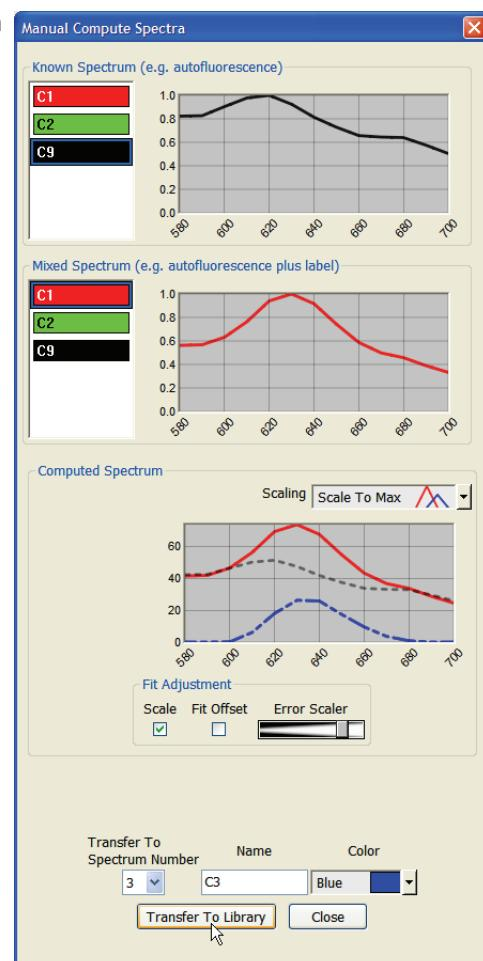

Figure 33. Manual Compute Spectra
1. In the **Computed Spectrum** group (see Figure 33), select “Scale To Max” in the **Scaling** drop down box. This provides the best visual representation of the spectra.
2. The mixed spectrum and computed spectrum are shown in their respective colors. The dotted “best fit” line is a scaled representation of the known autofluorescence signal (see Figure 33).
3. With the **Scaling** box checked, try sliding the **Error Scaler** to the right to increase the scaling (or to the left to decrease it) until the non-overlapping portions of the known and mixed spectra line up as closely as possible (as shown in Figure 33).